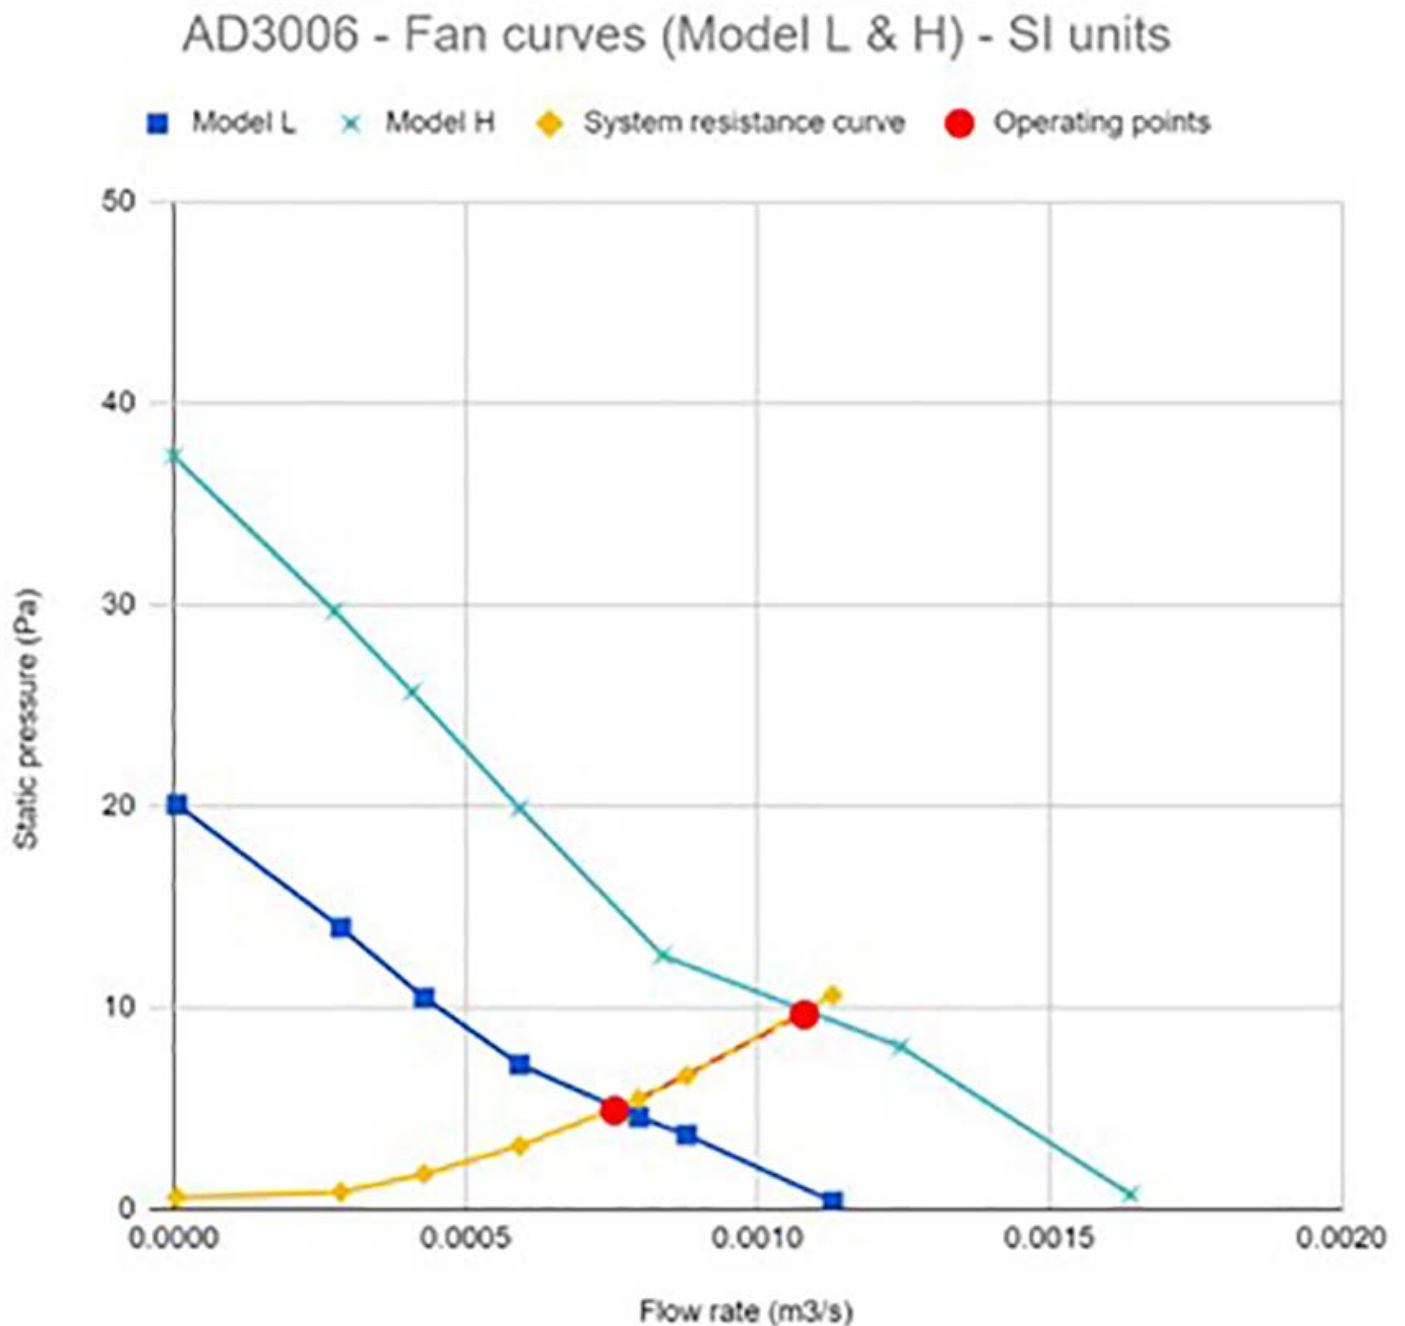

Figure 5. Fan performance curves and Raspberry Pi system resistance curve for different fan models for comparison purposes.
Fan inlets show a 4.78 pascal (0.5mmAq) pressure difference at a flow rate of  $7.55e-4m^3/s$ , and this matches the fan curve data sheet for the baseline model (L). The fan outlets are at 0 gauge pressure as intended. We can easily switch the fan curve data to simulate a more powerful fan (H) for comparison. Doing this shows a 10 pascal (1mmAq) pressure drop, but also a higher achieved flow rate cooling the components. The two are compared in **FIGURE 5**. Through this analysis, we can
start generating a system curve for the enclosure (Raspberry Pi) derived from simulating various fan operating points (orange line in Figure 5). Running 10 simulations of different flow rates in parallel, we generated the entire system curve for the Raspberry Pi in 2 hr. Chip cooling performance based on comparing the two fans is also shown, with the more substantial model H fan better at removing heat (**FIGURE 6**).